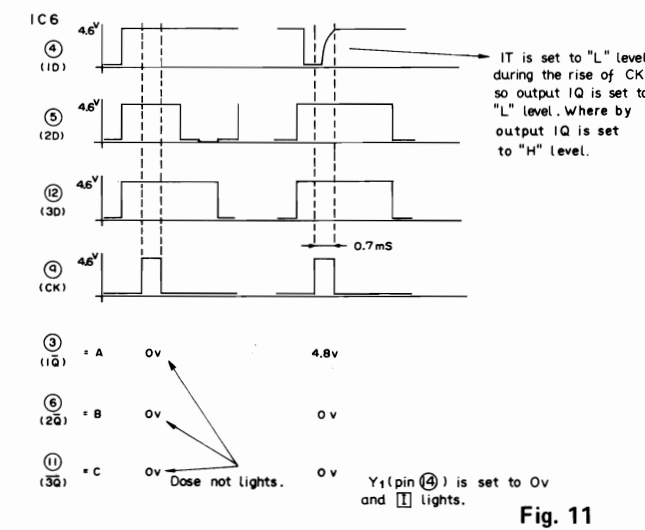

Fig. 11
IC6 is also a D flip-flop. When data (1D, 2D, 3D) is present when CLOCK (CK) is applied, they pass through it and appear as outputs (1Q, 2Q, 3Q). IC7 interprets this 3-bit signal. For example, this is how memory (1) lights (figure 11).